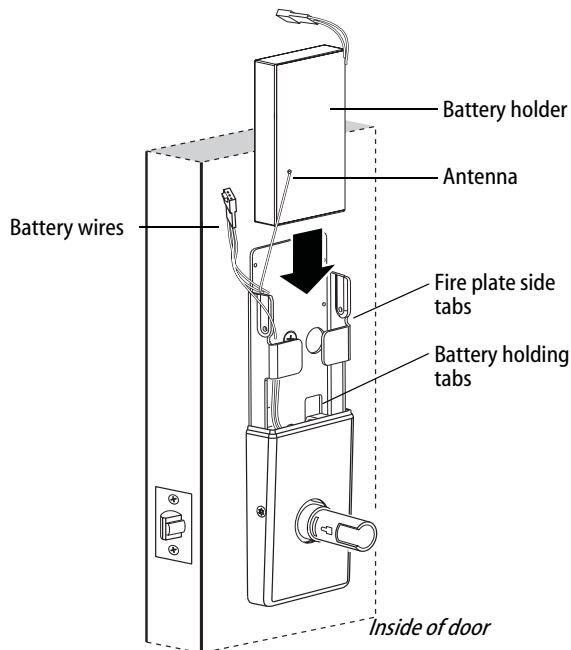

Figure 17 Installing the battery holder, eight-cell
- 1 Position the battery wires against the fire plate side wall, as shown in Figure 17.